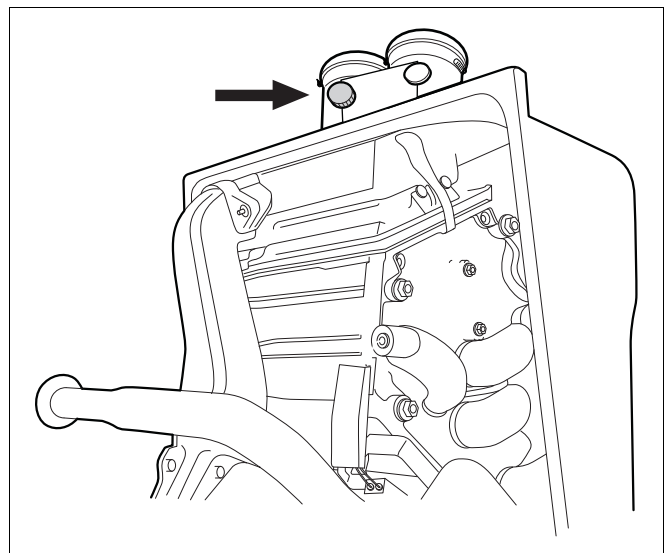

Fig. 38 Flue gas sampling point
8.10 Measuring the carbon monoxide content (CO)
- Measure the carbon monoxide content on the flue gas sampling point (fig. 38).